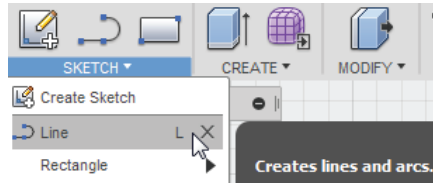

Figure-3. line
- Click on **Line** tool of **SKETCH** drop-down from **Toolbar**; refer to Figure-3. You can also press **L** key to select the **Line** tool. You will be asked to specify start point of the line.